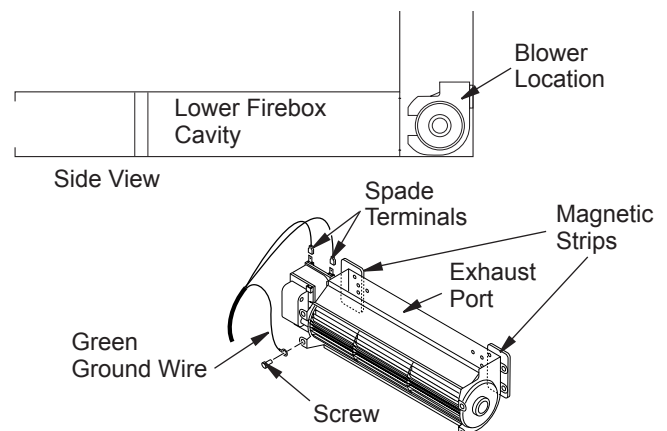

Figure 25 - Blower Model BK
1. Attach the power cord to the blower motor by firmly pushing the two female terminals at the end of the power cord onto the two spade terminals on the blower motor (see Figure 25).
2. Attach green ground wire from power cord to blower housing using screw provided (see Figure 25, page 14). Tighten screws securely.
3. Place the blower against the lower rear wall of the firebox outer wrapper with the exhaust port directed upward. The blower will fit inside the back opening and be held in position against the back wall by the magnets (see Figure 25, page 14).